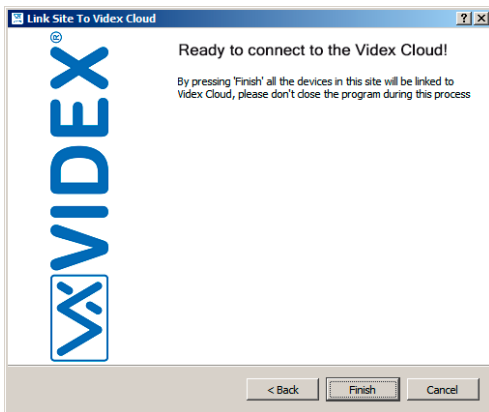

Fig. 36 Ready to connect to Videx Cloud
- The system is ready to connect to Videx Cloud (Fig. 36) click the "finish" button to proceed.